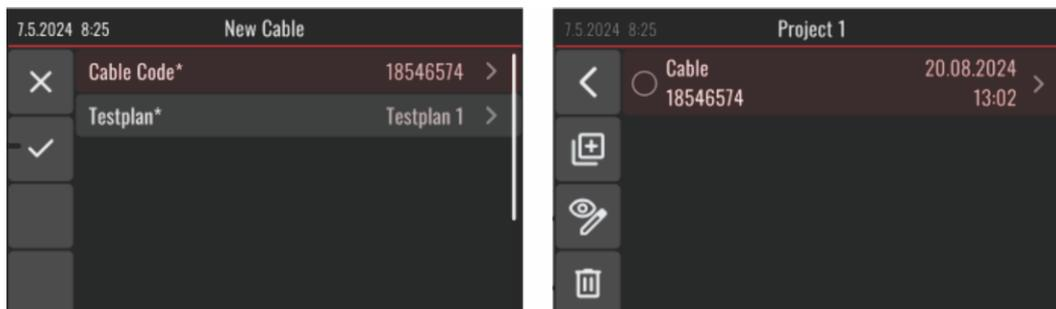

Figure 50: Filled out Cable (left figure) and filled out Cable List (right figure), example
- Select desired Test Plan to be appended to the Cable by clicking it ⇒ filled out just created Cable (Cable Code and Test Plan) screen will appear, see the left side of the Figure 50.
- Confirm entered Cable attributes by clicking the ✓ pad again ⇒ filled out Cable list including just created Cable will appear, see the right side of the Figure 50.